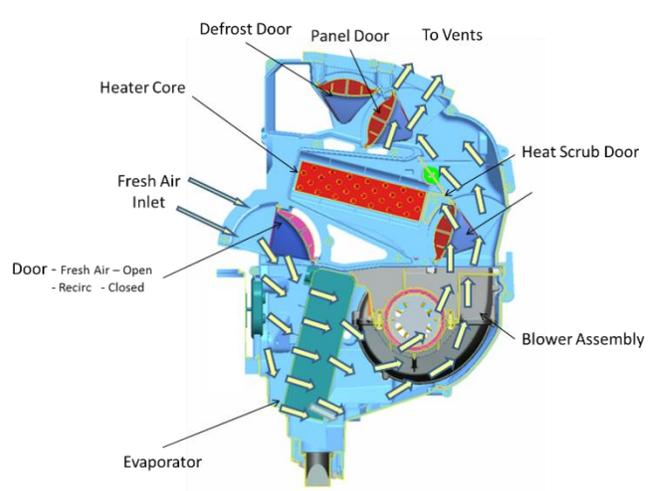

Figure 6: Fresh Air, Panel
*Figure 6* illustrates the system airflow when operating in the Heat & Vent modes. In this mode, the fresh/recirculate air door is in the fresh air position. Fresh outside air enters the top of the fresh air module via an air duct. The air is pulled into the HVAC unit, through the evaporator core, by the dual scroll blower assembly. The blower then pushes the air through the remainder of the HVAC unit. The temperature blend air door directs air either through the heater core or past it depending on the temperature selected for the outlet air. The temperature blended air proceeds to the mode doors where all the air is directed to the panel vents. All the air can bypass the heater core if the temperature control is set at full cold. (The A/C button in the control panel is disengaged at this point)